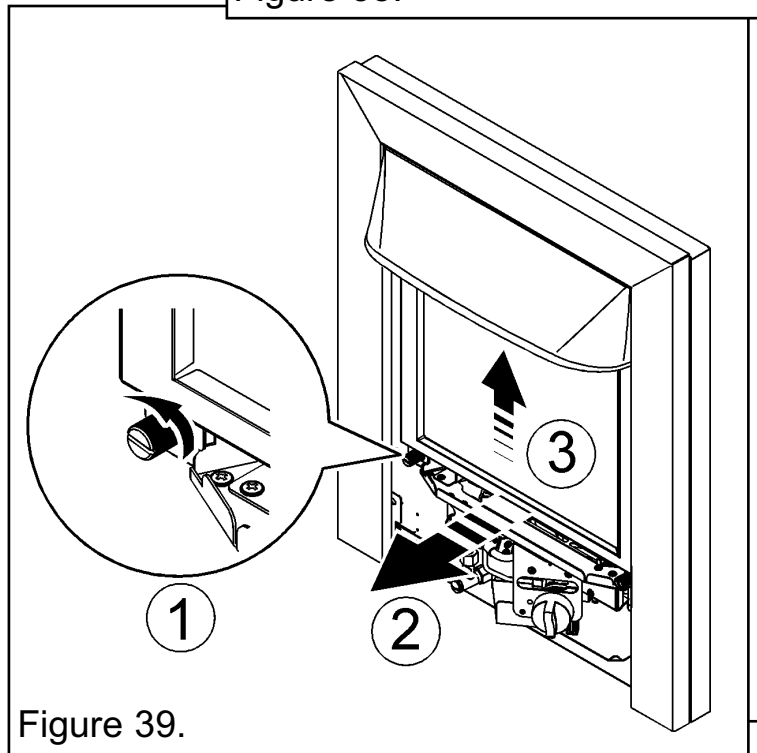

Figure 39.
2. Detach and remove the window assembly. To do this unscrew and remove the two thumbscrews at the base of the window assembly. Gently lift the window assembly upward and forward (See figure 39). Place the window assembly and thumbscrews in a safe place away from the work area.